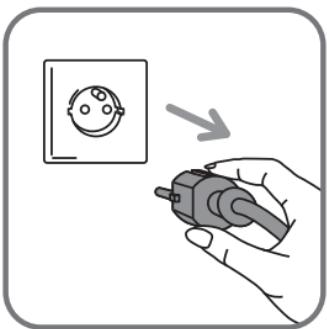

fig.1
**IMPORTANT** Before doing anything else, remove the sticker on the side **fig.1**.
- Before filling the water tank, unplug the iron fig.1.